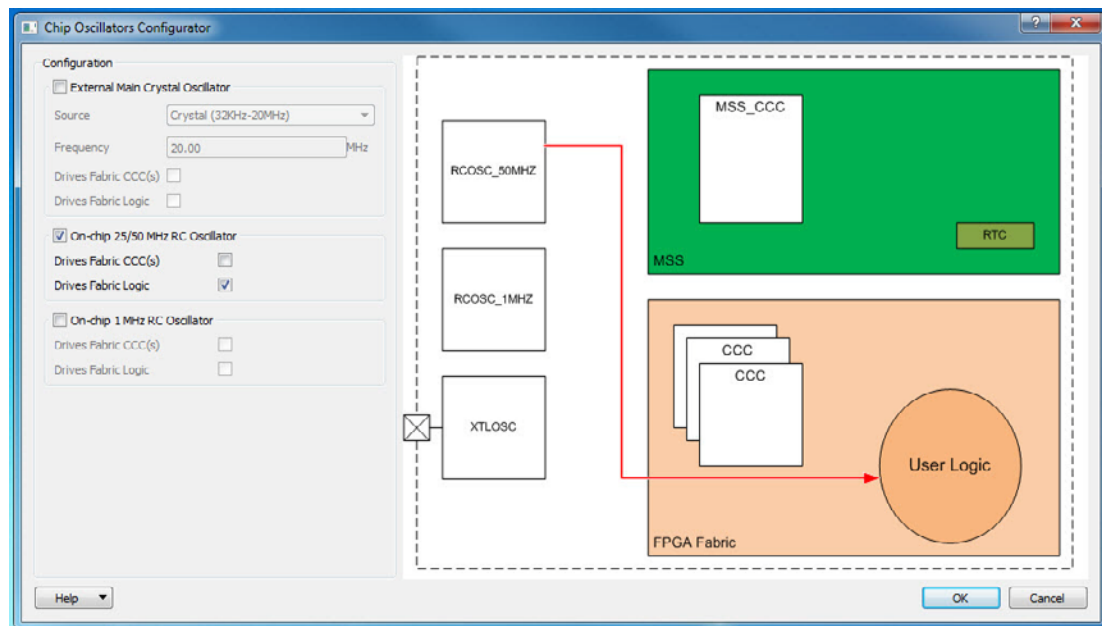

Figure 3-5 • Chip Oscillators Configurator
2. Configure this core such that the RC oscillator drives the FPGA fabric, as shown in Figure 3-5.